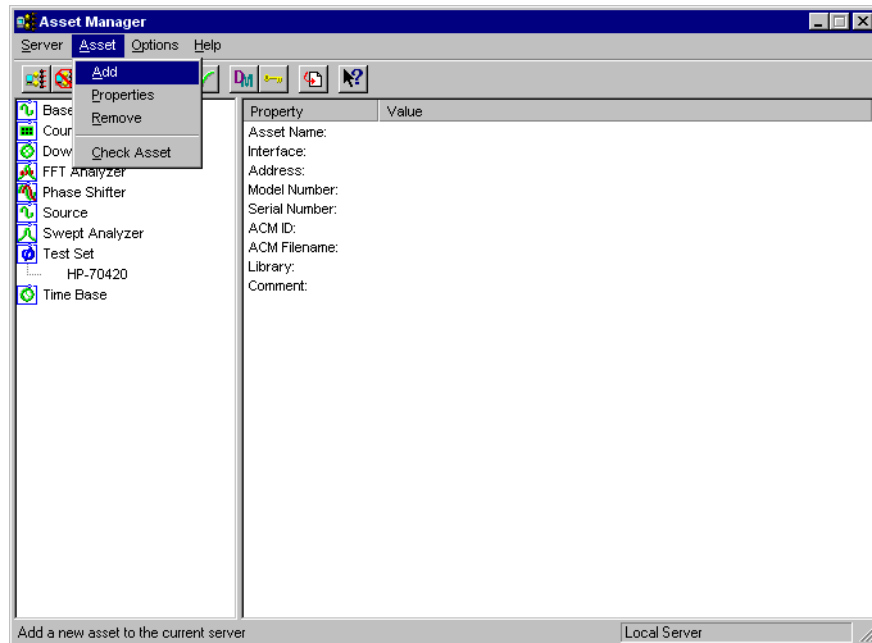

Figure 5-3 Navigate to **Add** in the Asset Manager
- 5 Using Figure 5-3 as a navigational guide, select **Add** in the Asset Manager window.